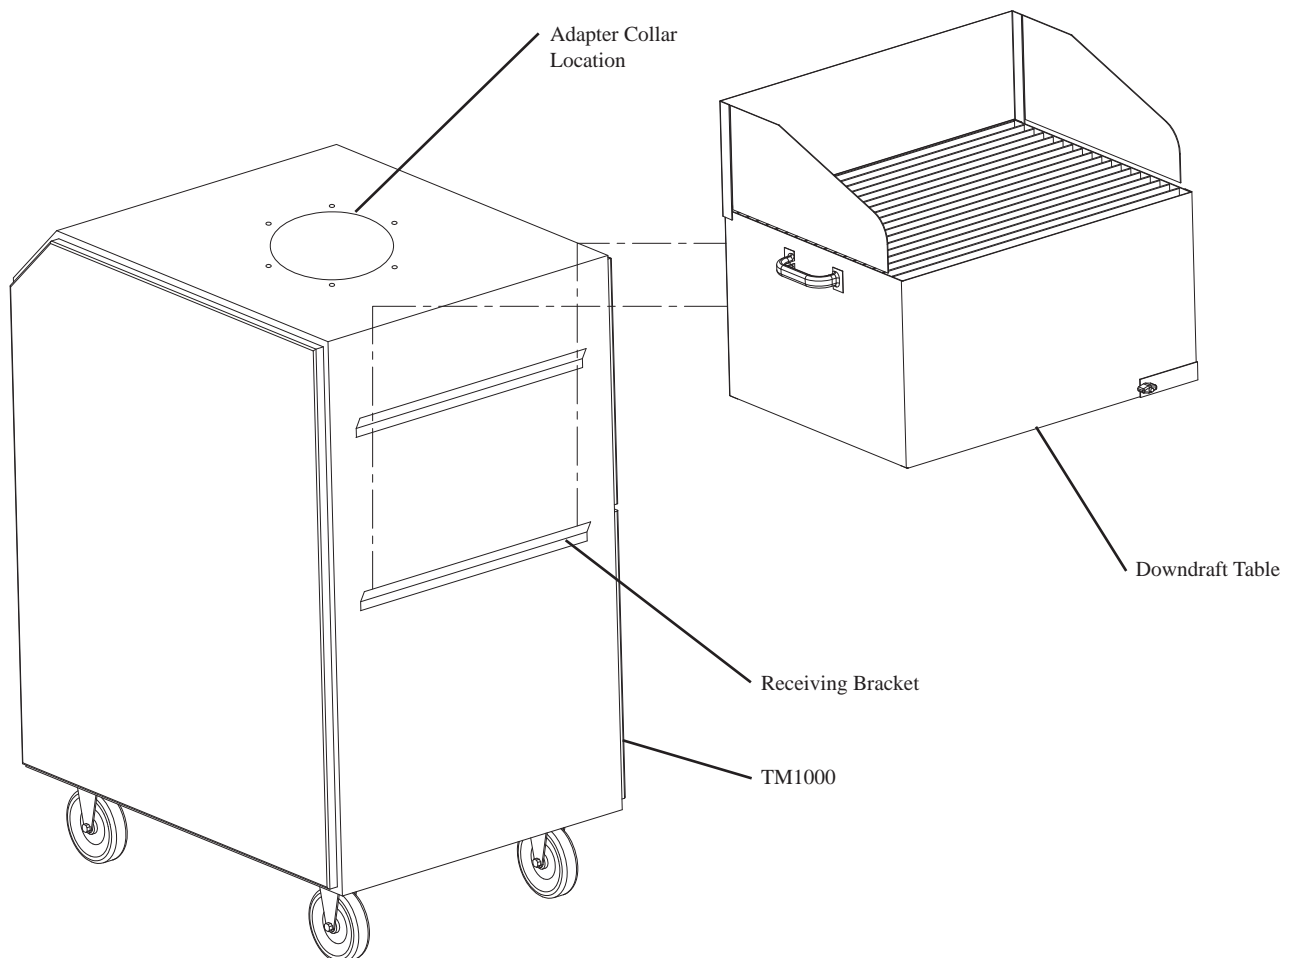

Fig. 5
1. Lift and slide the Downdraft Table into the lower receiving bracket (Fig. 5).